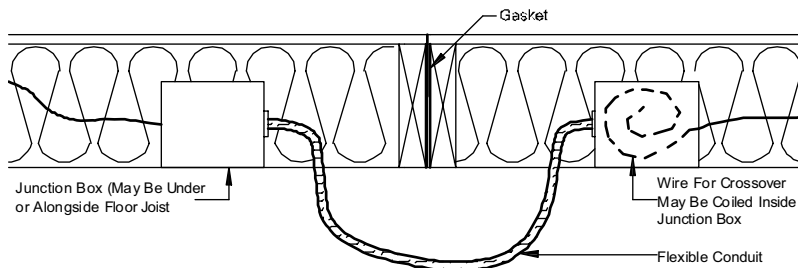

Figure 49. Under the rim joist electrical crossover connection with conduit
2. **Connect wires.** If wire is coiled inside one junction box, insert it into provided flexible conduit and pass it under the rim joists to the opposing box and make the connection as described above. If no coiled wire is provided, install provided ship-loose conduit with wire making connections in both boxes (**Figure 49**).